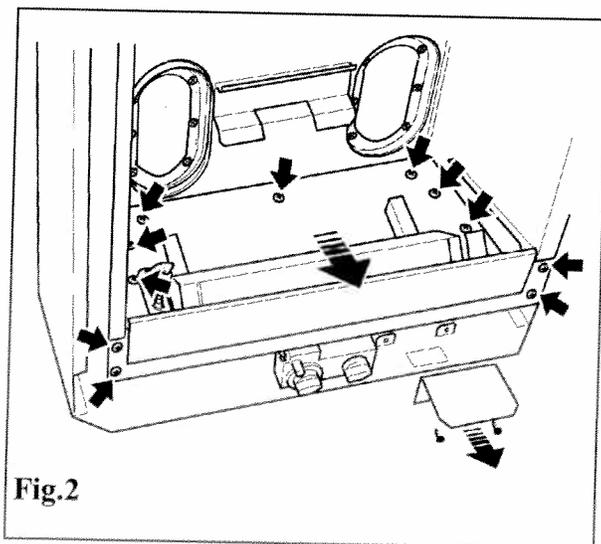

Fig.2
- Detach the battery shield by removing two screws. See figure 2.
- Detach the burner module by removing 11 screws. See figure 2.